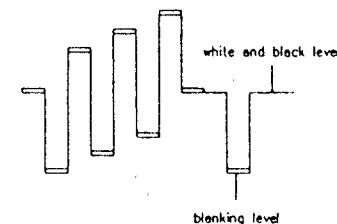

Figure 8-1
- 3) Adjust L504 such that the level of the black and white are in accordance with the blanking level (See Fig. 8-1)